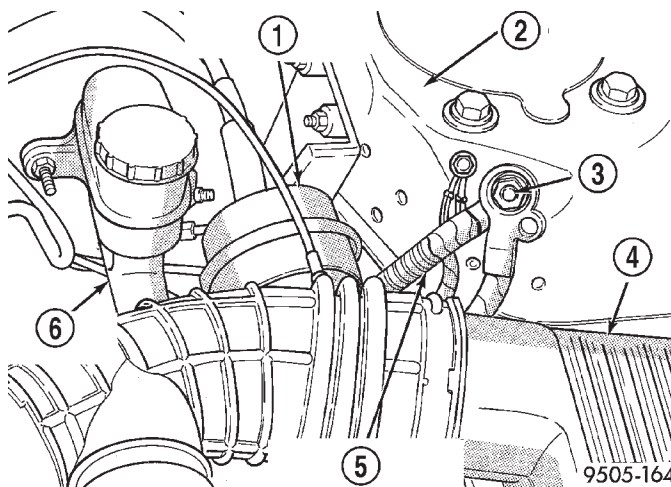

Fig. 22 Remote Ground Cable Attachment To Strut Tower
(1) Remove the remote ground cable from the ground stud on the left strut tower (Fig. 22).